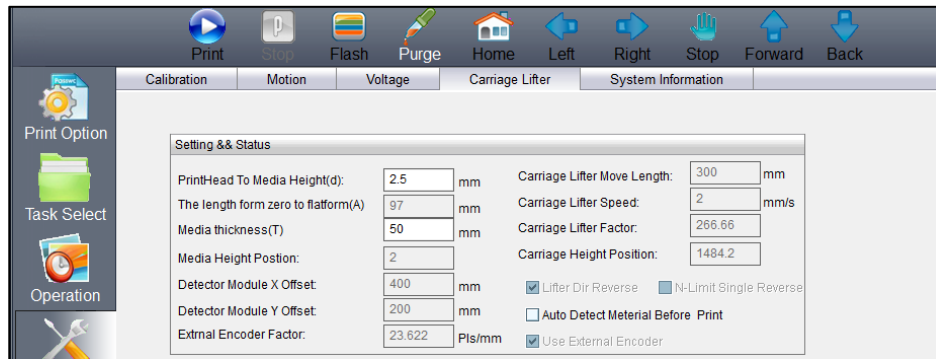

Fig 33: Selecting the Carriage Lifter Tab
**Step 1:** Click on the **Maintenance** menu (Refer to Fig 33).